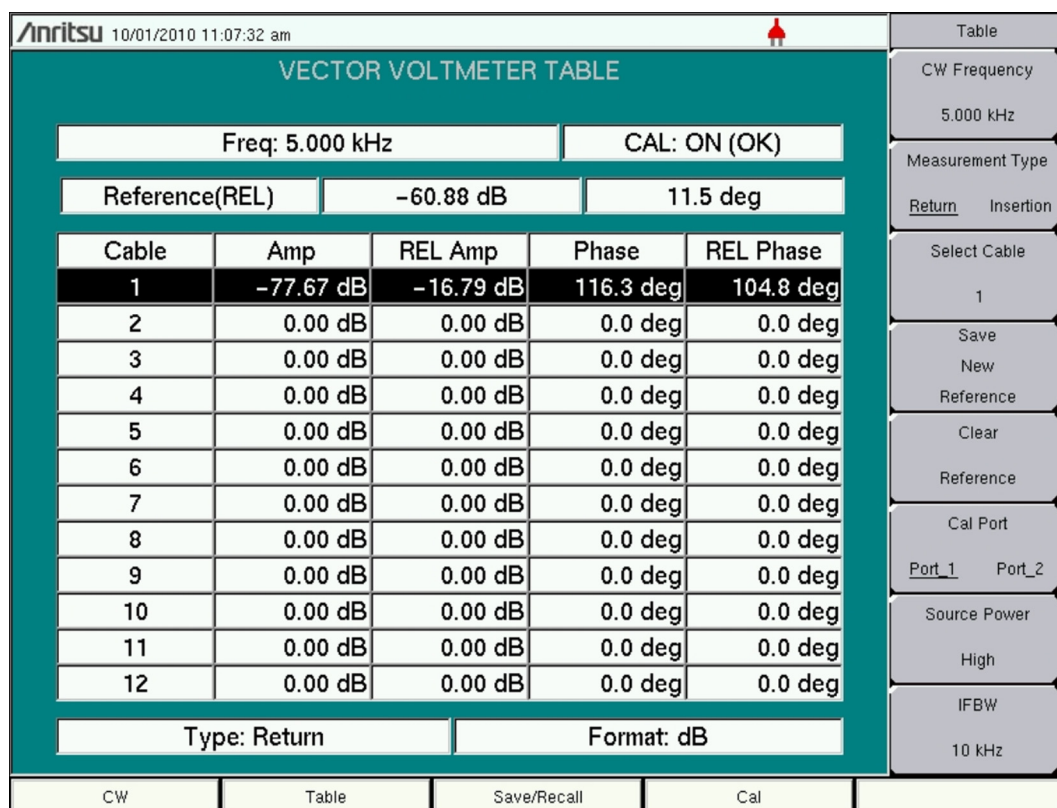

Figure 11-7. Vector Voltmeter Relative Measurement Table – MS20xxC VNA Master
7. As shown in Figure 11-7, the Vector Network Analyzer saves the current measurement in a new reference window above the table and updates the REL Amp and REL Phase columns to display the difference between the current measurement and the saved reference measurement.